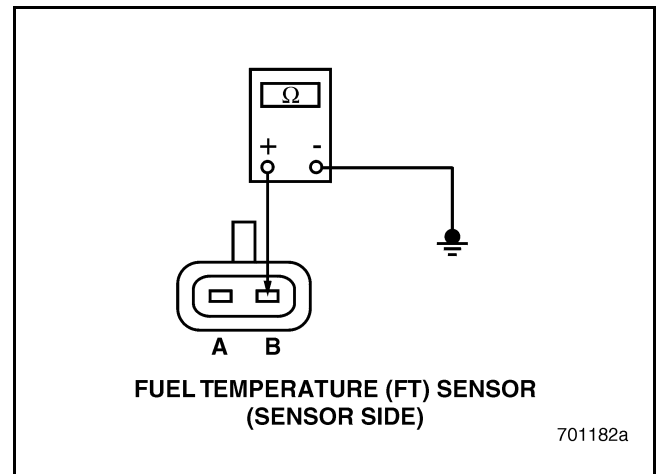

Figure 55
2. Disconnect the Fuel Temperature (FT) Sensor connector.
3. Check for continuity from either pin of the FT Sensor to a good ground (see Figure 55). If continuity exists, replace the FT Sensor. If there is NO continuity, go to test “Test 10 — Checking Sensor Resistance” on page 79.